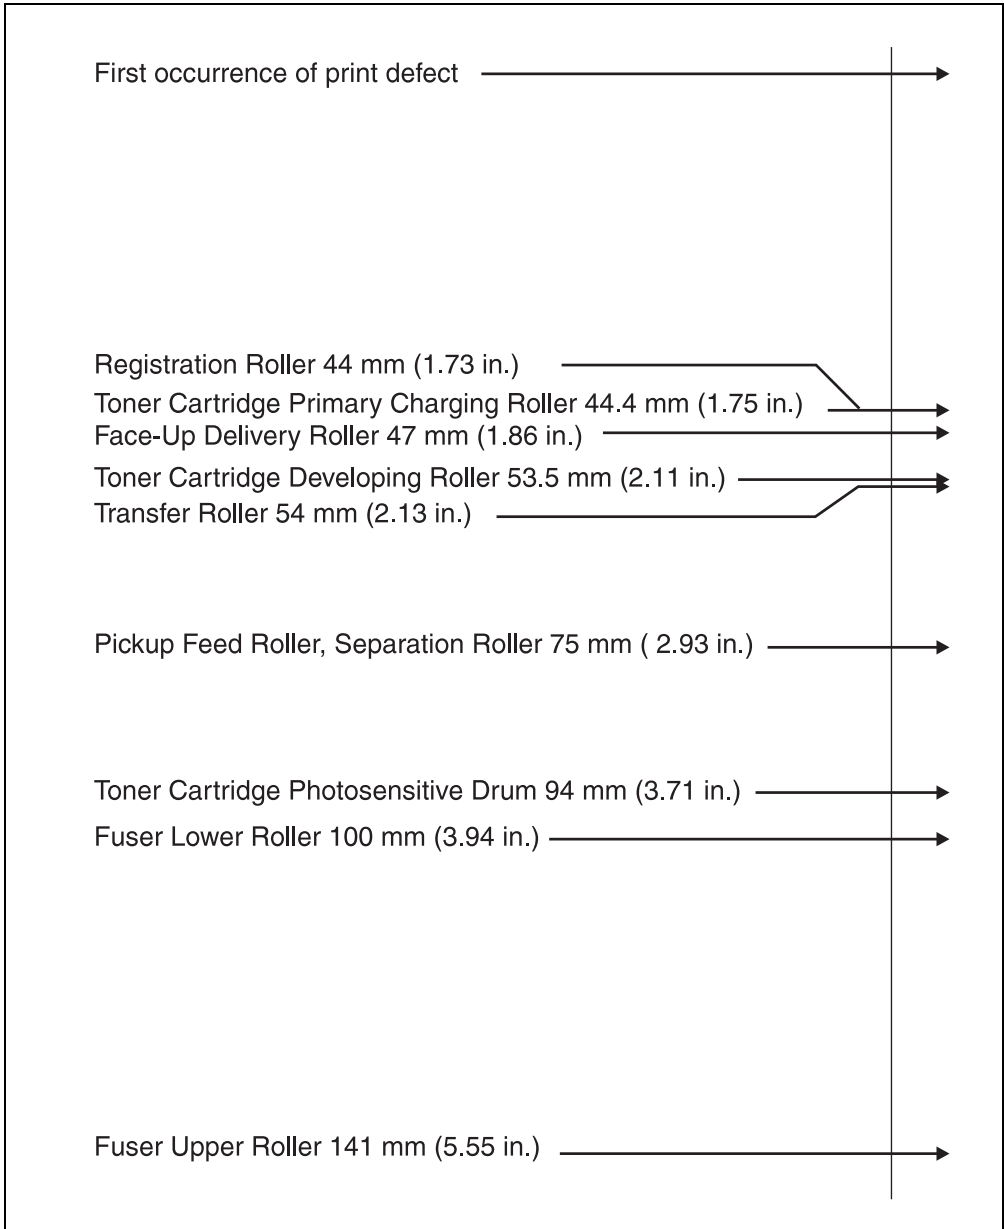

Figure 7-20 Repetitive Defect Ruler
1. Toner cartridge is damaged. If the defect repeats at any of the following intervals and in the direction of paper movement, it is associated with a component inside the toner cartridge. See figure 7-20 on page 613.	Inspect the drum for scratches or damage. Replace the toner cartridge. Use the Repetitive Defect Ruler, figure 7-20 on page 613.
Repetitive print defects are usually associated with a specific roller within the printer or the toner cartridge. Use figure 7-20 to isolate the cause of repetitive print defects. Align the first occurrence of the defect with the top of the “ruler” and measure to the next occurrence of the defect to determine the roller in question. When you are certain that your defect pattern matches the pattern of the ruler, replace the indicated roller.